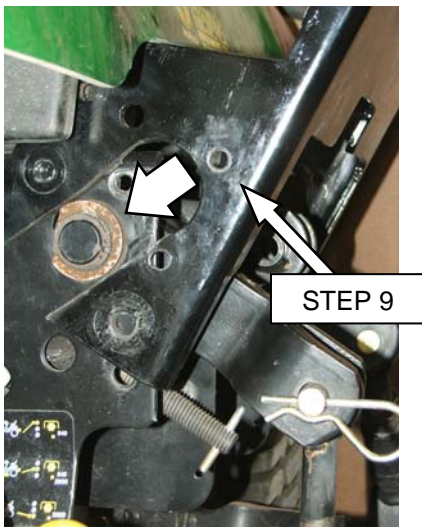

Figure 5
- 9) Lower cab with rear mount onto the tractor's rear frame. Cab may need to be tilted rearward to clear fender. Tilt forward and align with rear mount holes. See Figure 5.